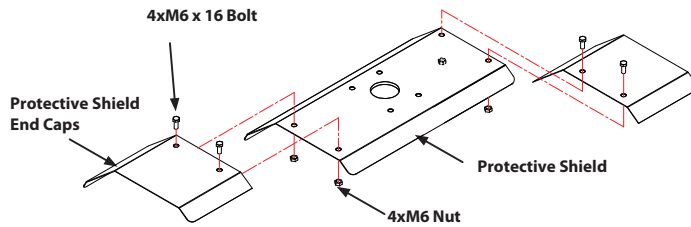

Figure 1-5
- Align holes on the protective shield end caps to the main protective shield and secure with M6x16 bolts and M6 nuts. See Figure 1-5